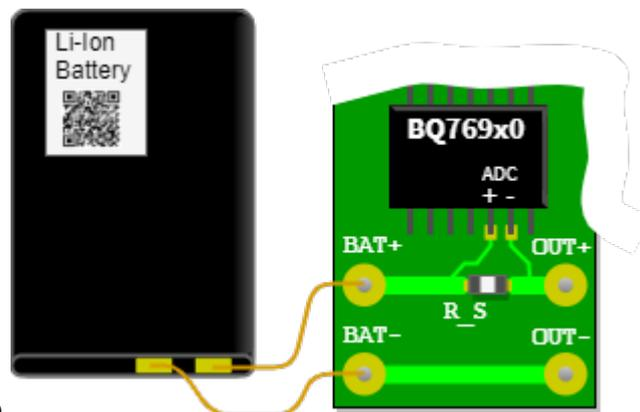

Fig. 32: Sketch of the setup
- The battery monitor BQ769x0 measures the charge and discharge currents of a lithium-ion battery by means of the voltage across a measuring resistor (shunt). In figure 32 the analog-to-digital converter (ADC) of this chip is connected to the shunt R_S via the circuit board. Through the shunt the discharge current flows from the battery connection $BAT+$ to $OUT+$ and via $OUT-$ back to $BAT-$. The shunt shall be designed so that the bipolar measurement signals have a voltage level in the range of $-0.20\ \text{V}$ to $+0.20\ \text{V}$. The analog-to-digital converter has a resolution of $15\ \mu\text{V}$. The currents can be used to count the charge in the battery to determine the state of charge (SOC).